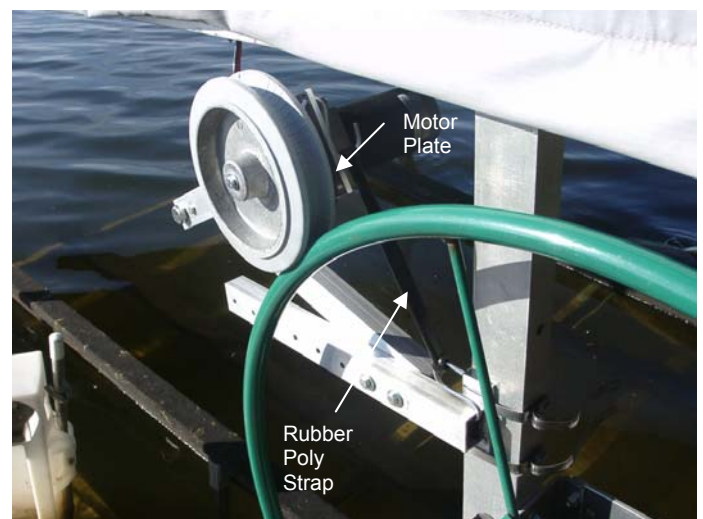

FIG. 16
6. Hook one end of the black rubber poly strap into the top hole of the motor plate towards the winch post. Fasten the other end to the open end of the inner or outer arm or directly onto the winch box. See Fig. 16.